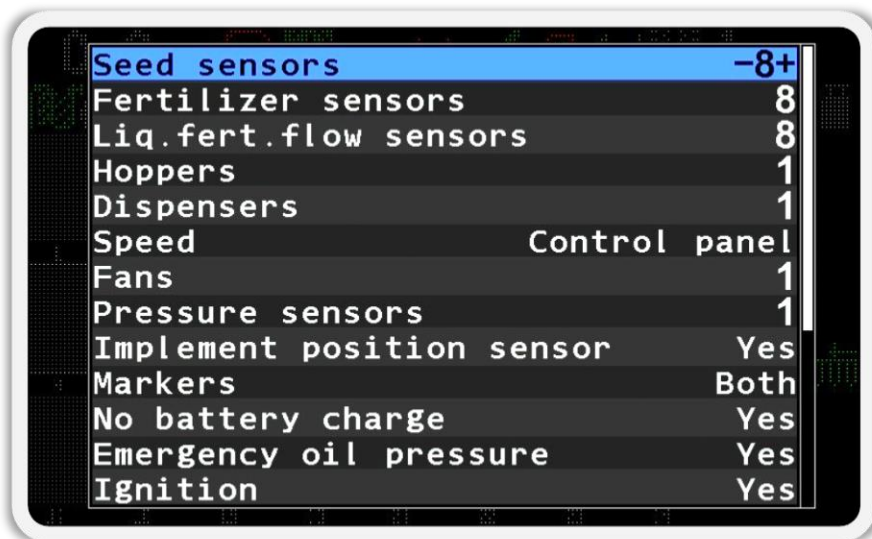

Figure 57 Profile settings menu
4. In the profile settings menu (see Figure 57) there is a corresponding menu item for each type of sensor or actuator. The parameter located in the menu on the right sets the number of sensors or the way they are connected. To move from one menu item to another, use the  “Up” or  “Down” buttons and to change the parameter use the  “Plus” or  “Minus” buttons.